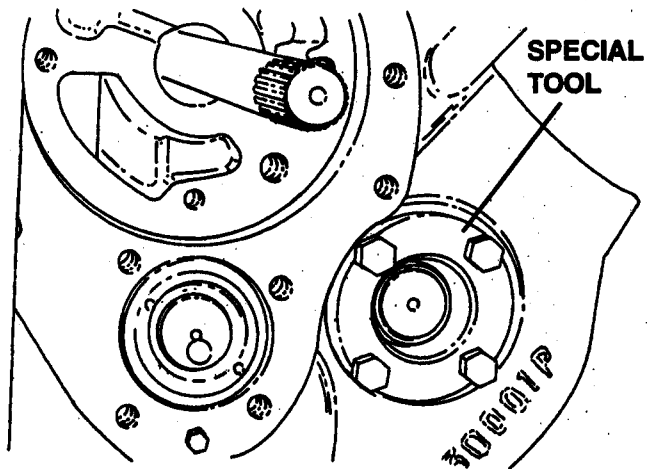

Figure 29.
29. Install special tool, P/N 1001833 (Figure 29) together with a new gasket in place of reverse clutch cover cap. Tighten bolts to a torque of 42 lb-ft. (56 Nm).